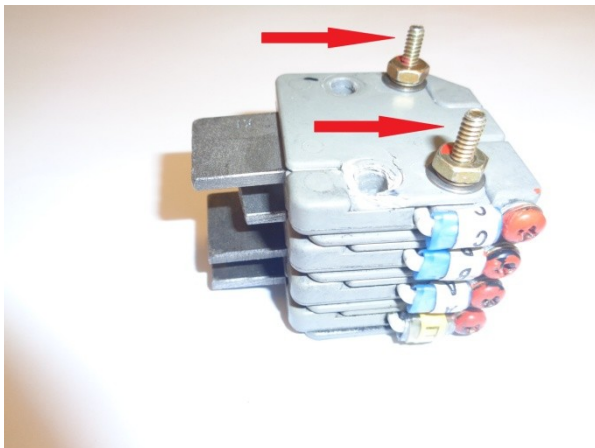

Fig.13 Loose two screw connections for disassembly the Brush assembly
- B. Loose two screw connections (see red arrows on fig.13) and remove all damaged brush modules.